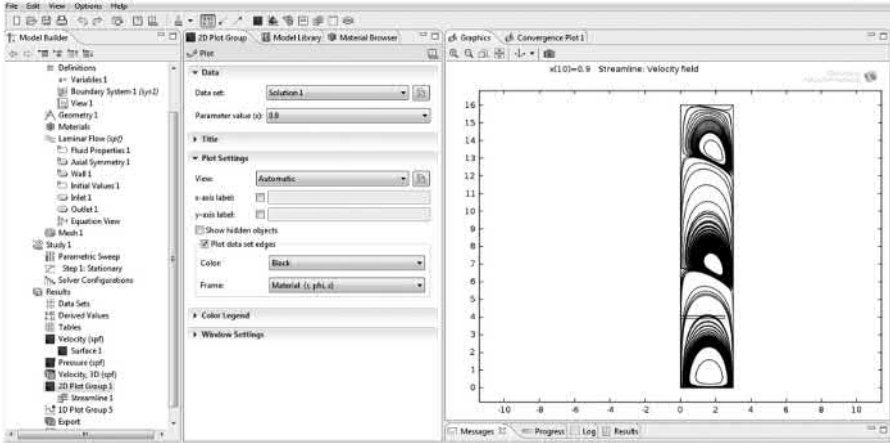

FIGURE 4.16 Streamlines for flow through an orifice ( $R_e = 10^{0.9}$ ).
- Now, change the value of  $R_e$  to  $10^{0.9}$  in *2D Plot Group 1* and click on plot icon. Figure 4.16 shows the plot for streamlines for flow through an orifice for  $R_e = 10^{0.9}$ .